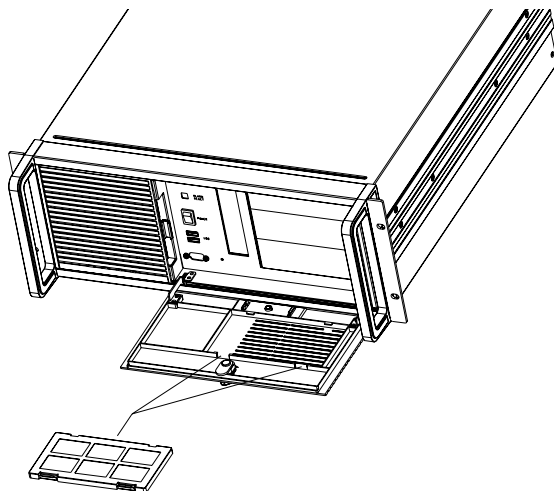

Figure 3.8: Removing the front door filter
2. Pull out the filter behind the front door by pushing the two clips; pull out the fan filter by pushing the hook and then slide it rightwards. (see *Figure 3.8* and 3.9)